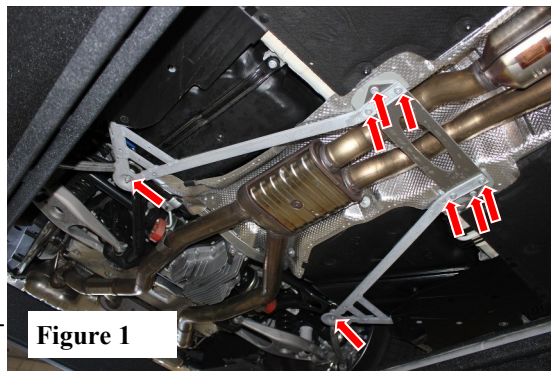

Figure 1
2. Remove OE brackets support brackets from vehicle. Remove front flange hardware. **Keep factory hardware for reinstallation.** (See Figs. 1 & 2)